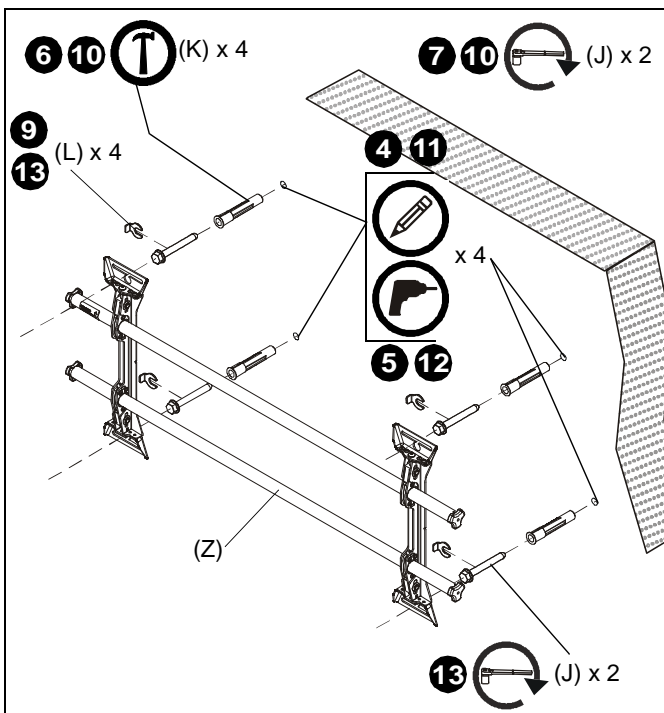

Figure 3
4. Using a level, mark the wall through both upper mounting slots. (See Figure 3)
6. Install an anchor (K) into each pilot hole using a hammer, making sure that the anchor is flush with the wall.
7. Partially install two 5/16 x 2-1/2" flanged lag bolts (J) into pilot holes but do not tighten to wall.
8. Hang mount (Z), aligning upper mounting slots over lag bolts and adjust side-to-side for proper location.
9. Place one slotted washer (L) over each flanged lag bolt. (See Figure 3)
10. Tighten lag bolts to secure mount (Z) to wall at upper mounting slots.
11. Mark the attachment points for the lower mounting slots, making sure the attachment points are located on the studs. (See Figure 3)
12. Drill 3/8" x 3-1/2" (9.5mm x 88.9mm) pilot holes at markings for lower mounting holes. (See Figure 3)
13. Use two 5/16 x 2-1/2" flanged lag bolts (J) and two 5/16" slotted washers (L) to attach the mount to the wall through the lower mounting holes. (See Figure 3)